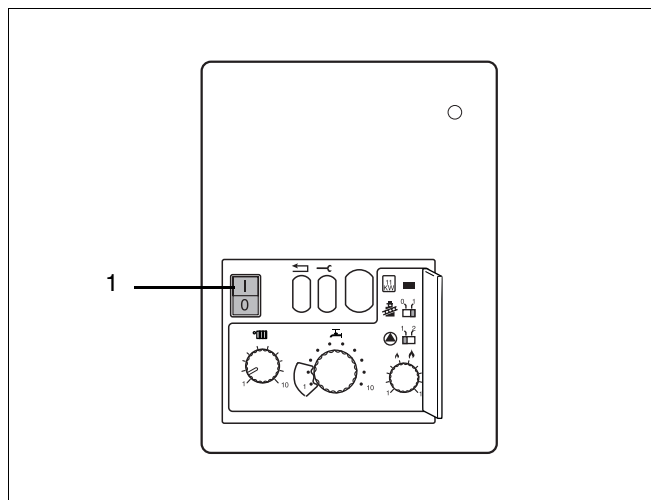

Fig. 17 UBA
Connection must be made in a way that allows complete isolation of the electrical supply such as a double pole switch having 3 mm (1/8") contact separation in both poles, or a plug and socket, serving only the boiler and system controls. This boiler is equipped with a double pole switch see fig. 17, item 1. The means of isolation must be accessible to the user after installation.